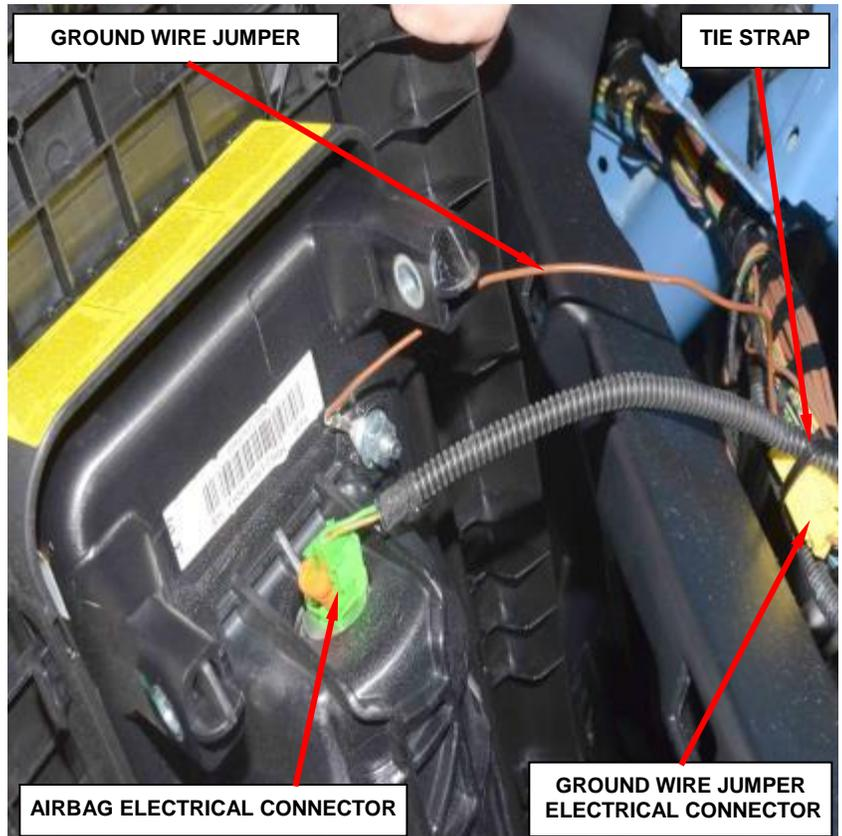

Figure 13 – Ground Wire Jumper
17. Remove and **discard** the tie strap securing the yellow ground wire jumper electrical connector to the instrument panel wire harness (Figure 13).
18. Disconnect the yellow ground wire jumper electrical connector from the instrument panel wire harness (Figure 13).
21. Connect the yellow ground wire jumper electrical connector to the instrument panel wire harness (Figure 13).
22. Secure the ground wire jumper electrical connector to the instrument panel wire harness using a **NEW** tie strap (Figure 13).